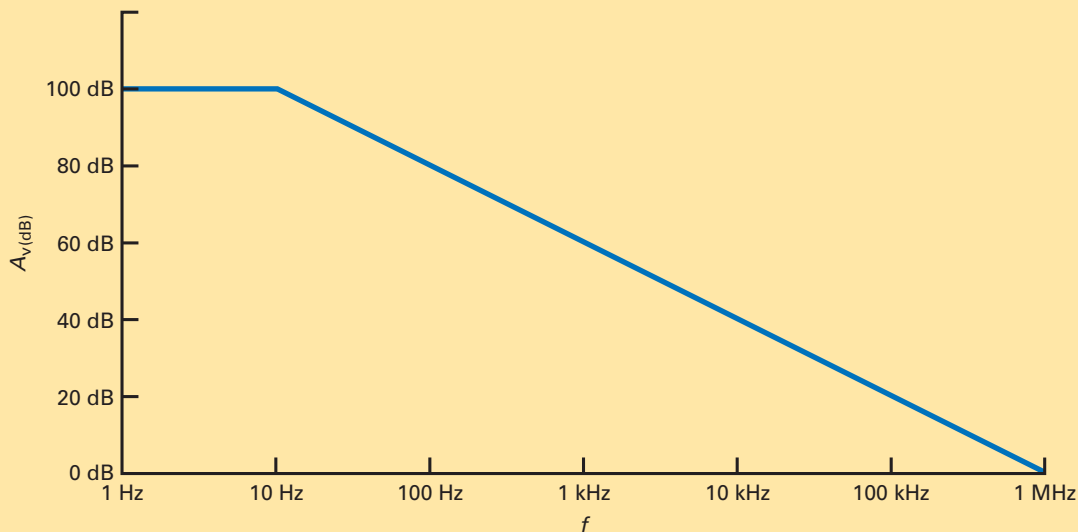

Figure 34-14 Ideal Bode plot of a dc amplifier.
Figure 34-14 shows the ideal Bode plot. After breaking at 10 Hz, the response rolls off 20 dB per decade until it equals 0 dB at 1 MHz. The ordinary voltage is unity (1) at this frequency. Data sheets often list the **unity-gain frequency** (symbolized f_{unity}) because it immediately tells you the frequency limitation of the op amp. The device can provide voltage gain up to unity-gain frequency but not beyond it.